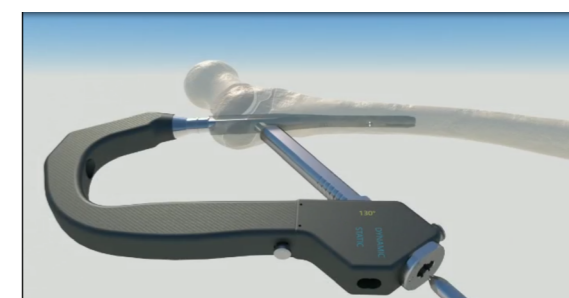

Figure 9a
- Insert the guide block corresponding to the neck shaft angle, and insert the guide sleeve. Make all openings on the skin at the corresponding position, and place the guide sleeve in and against the bone cortex (the guide sleeve does not need to be against the bone cortex, but the inner sleeve must be in contact with the bone) (Figure 9a).